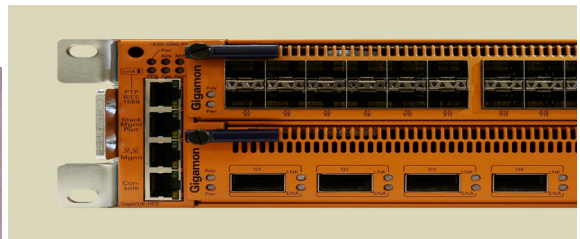

Figure 3-6: GigaVUE-HC2 Cable Management Assembly and Rack Ear
- a. Locate the cable management assembly (Figure 3-6).